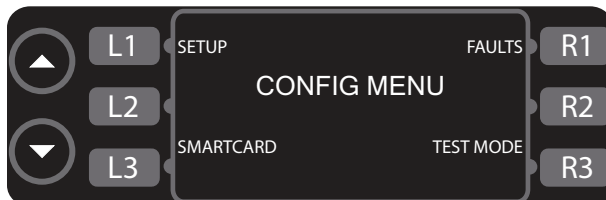
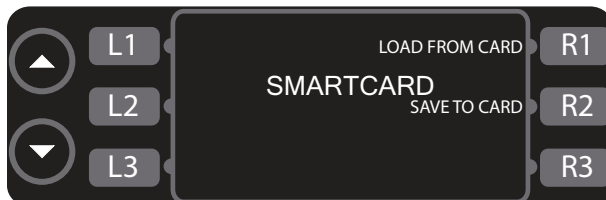

Figure 16: Config Mode
Figure 17: Smart Card Screen
The CONFIG MODE (Figure 16) serves four main purposes:
1. Press L3 (Figure 16) to access the smart card screen (Figure 17).
- Press R1 to load a menu from the smart card to the oven (Figure 17).
- Press R2 to save a menu from the oven to the smart card (Figure 17).
From the CONFIG MODE (Figure 16), press R1 to access the fault counts screen (Figure 20, page 15). The oven will display the number of faults that have occurred.
From the CONFIG MODE (Figure 16), press L1 to access the SETUP MODE. The SETUP MODE allows the user to customize several oven settings - see below for more details.